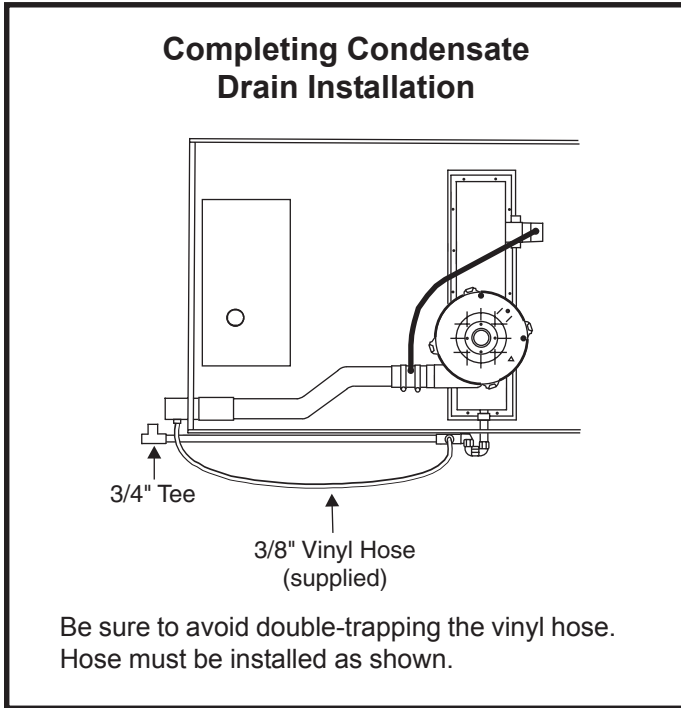

Figure 21
4. Connect a length of 3/4" PVC pipe (3' minimum) to the trap assembly (see Figure 21).
5. Install 3/4" tee (supplied) as shown in Figure 21.